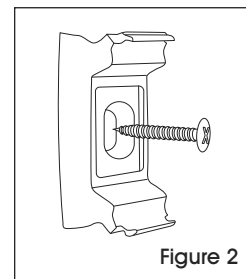

Figure 2
2. Screw each mounting bracket into the wall. (See Figure 2)